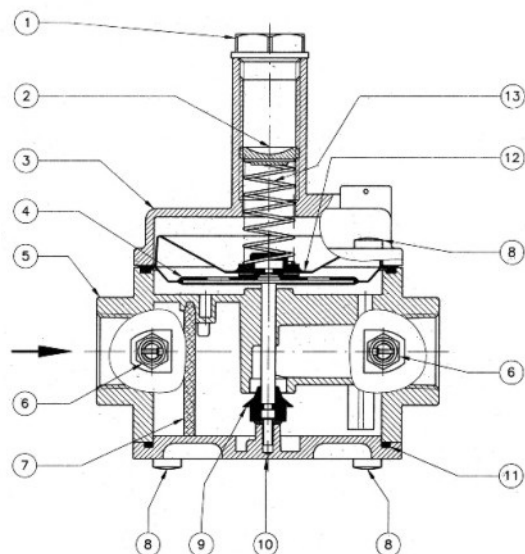

fig.1
The regulator is normally installed before the user. It must be installed with arrow (on the body (5) towards the user. It can be installed in any position but is preferable to be installed with the spring (13) in vertical position (see fig. 1). Outside the regulator, downstream of it, there is a checking-pressure tap (6) for the control of the regulation pressure.